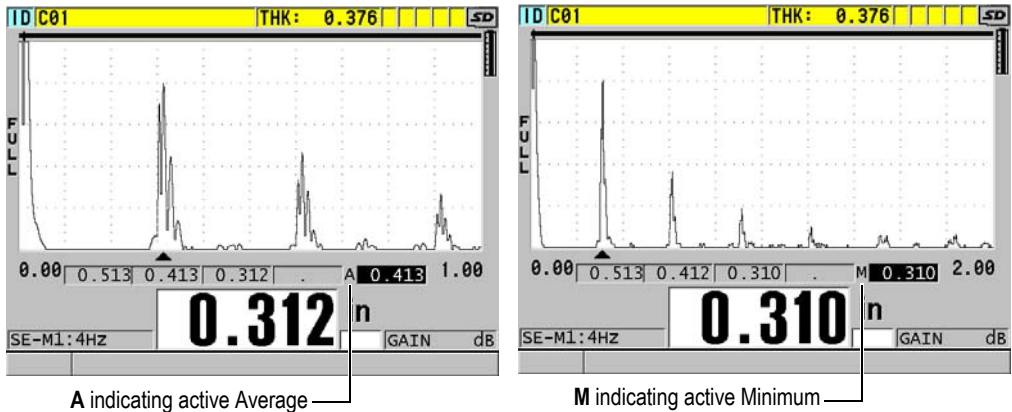

**Figure 10-16** Opening the Avg/Min measure dialog box
3. In **AVG/MIN** screen (see Figure 10-16 on page 154):